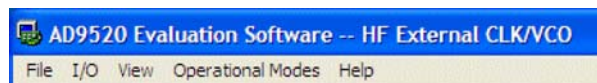
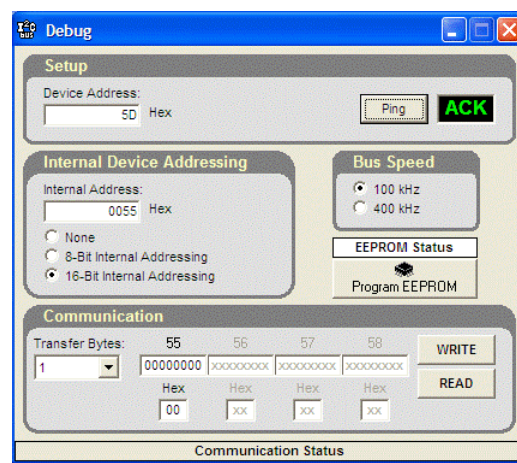

Figure 24. Menu Bar
Figure 29. Evaluation Software I²C Debug Window
7. From the **View** menu on the menu bar (see Figure 24), and select **Debug**. Click the **I2C Debug** button. The window shown in Figure 29 appears.
8. Enter the I²C address set by Jumper S5 and Jumper S6 on the AD9520 evaluation board, and click **Ping**. The user should see a green **ACK** message as shown in Figure 29. Repeat this step for the I²C address of the target AD9520. If **ACK** is returned for both addresses, the remote AD9520 is ready to be programmed. If the ping test fails, double-check the cabling between the boards, as well as the I²C address of the target AD9520. Ensure that the I²C address of the AD9520 on the evaluation board is different from the target AD9520. Also, disconnect the jumper cable, and make sure that I²C mode is working properly on the AD9520 evaluation board.